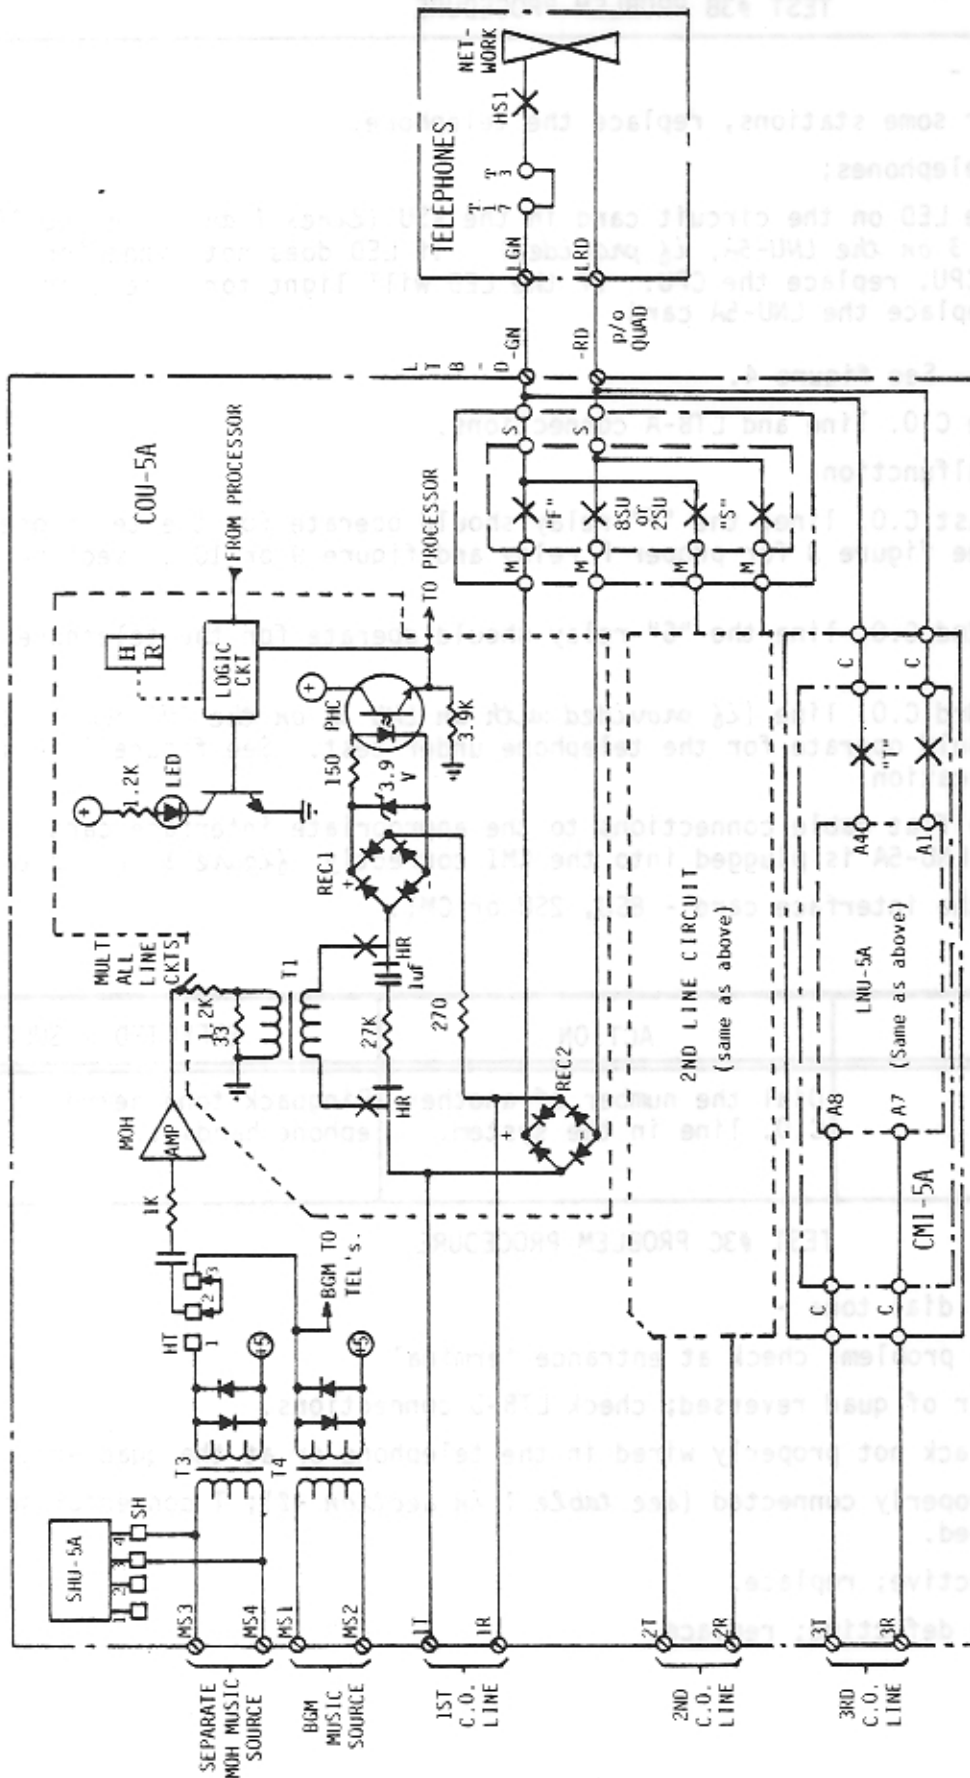

Figure 4 - C.O. Line Calling Simplified Schematic
2. No dial tone - See figure 4.
4. No music at the 2nd telephone - See figure 4.